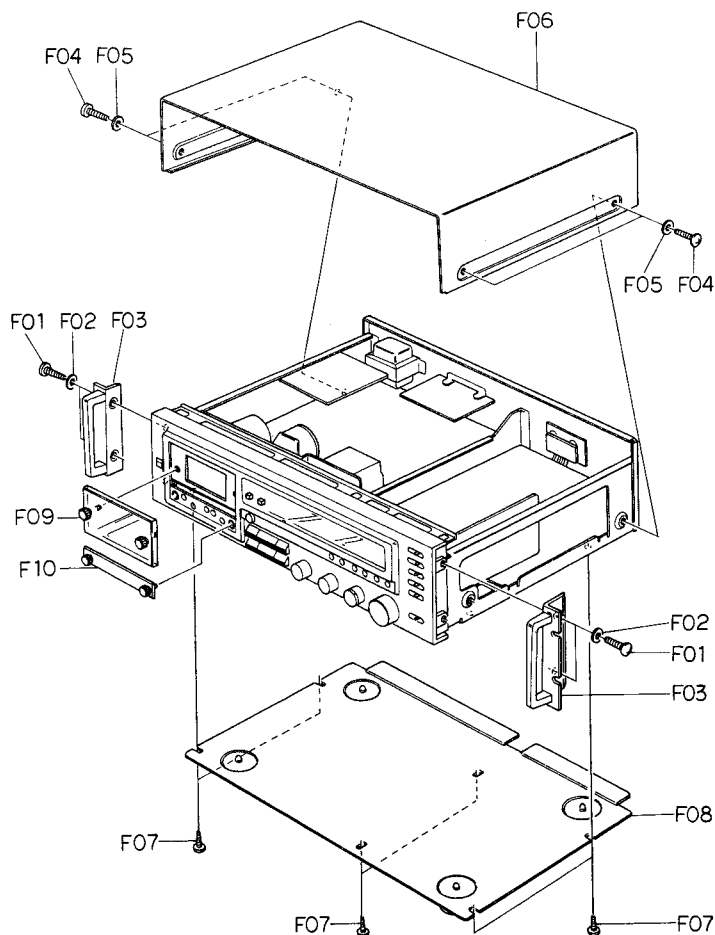

Fig. 2.1
Refer to Fig. 2.1.
(1) Refer to Fig. 2.1. Remove Top Cover Ass'y and Bottom Cover Ass'y referring to items 2.2 and 2.3.
(2) Pull out F01 (Volume Knob A), F02 (Volume Knob B) and F03 (Pitch Control Knob).
(3) Remove F04, F05 and F06, then disassemble F07 (Front Panel Ass'y including 3 connectors).
- (1) Refer to Fig. 2.1. Remove Top Cover Ass'y and Bottom Cover Ass'y referring to items 2.2 and 2.3.
- (2) Remove F01 and F02, then disassemble F03 (Rear Panel Ass'y).
- (2) Remove F04 and F05, then disassemble F06 (Power Transformer) and F07 (Transformer Plate).
- (3) Remove F08 and F09, then disassemble F10 (Fuse P.C.B. Ass'y).